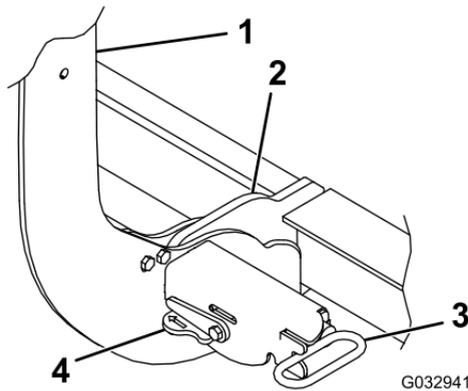

Figure 24
4. Turn the levers on the spring pins to the LOCK position (Figure 24).
7. Ensure that both spring pins have fully engaged the coupler (Figure 24).